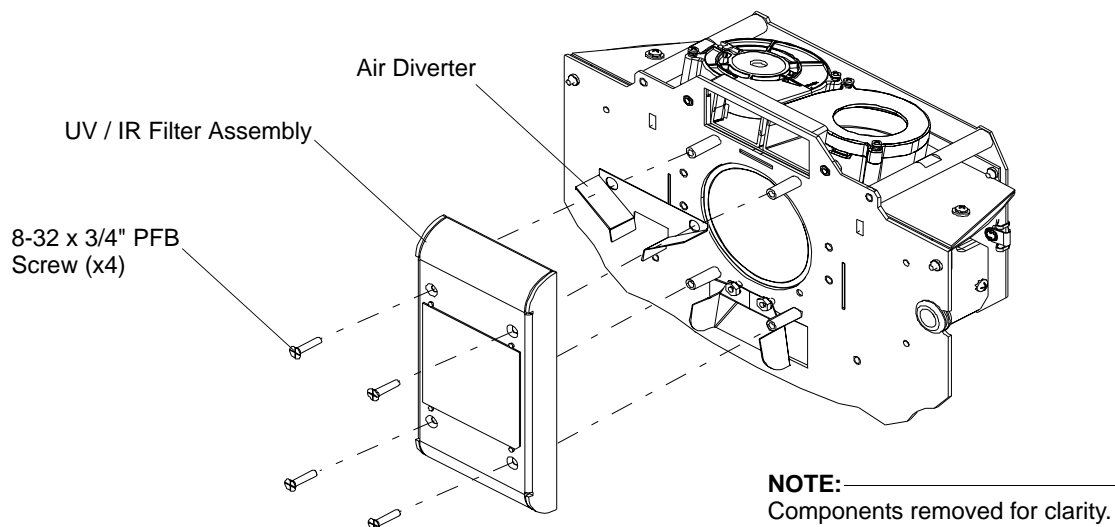

Figure 2-13: UV / IR Filter Assembly Removal
- Step 5. As shown in Figure 2-13, at UV/IR Filter Assembly, remove four 8-32 x 3/4" PFB screws and remove UV/IR Filter Assembly. Note air diverter placement.